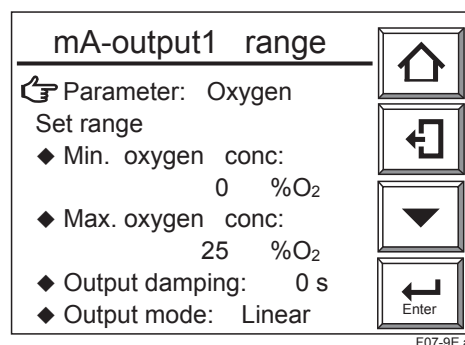

Figure 7.9 Setting “mA-output1 range”
- (3) Select the “mA-output 1” in the mA-outputs display. The “mA-output 1 range” display shown in Figure 7.9 then appears.
- (4) In the display shown in Figure 7.9, select “Min. oxygen conc” and press the [Enter] key to display the numeric-data entry display. Enter the oxygen concentration at a 4 mA output; enter [010] for a ten-percent oxygen concentration measurement.
- (5) Also in Figure 7.9, select “Max. oxygen conc” at a 20 mA output. Enter the appropriate maximum oxygen concentration (at the 20 mA output) in the same manner as in step 4 above.
- (6) Set the “mA-output 2” in the same manner as in the appropriate steps above.
This section briefly describes the display item settings shown in Figure 7.9, “Basic Panel Display.”